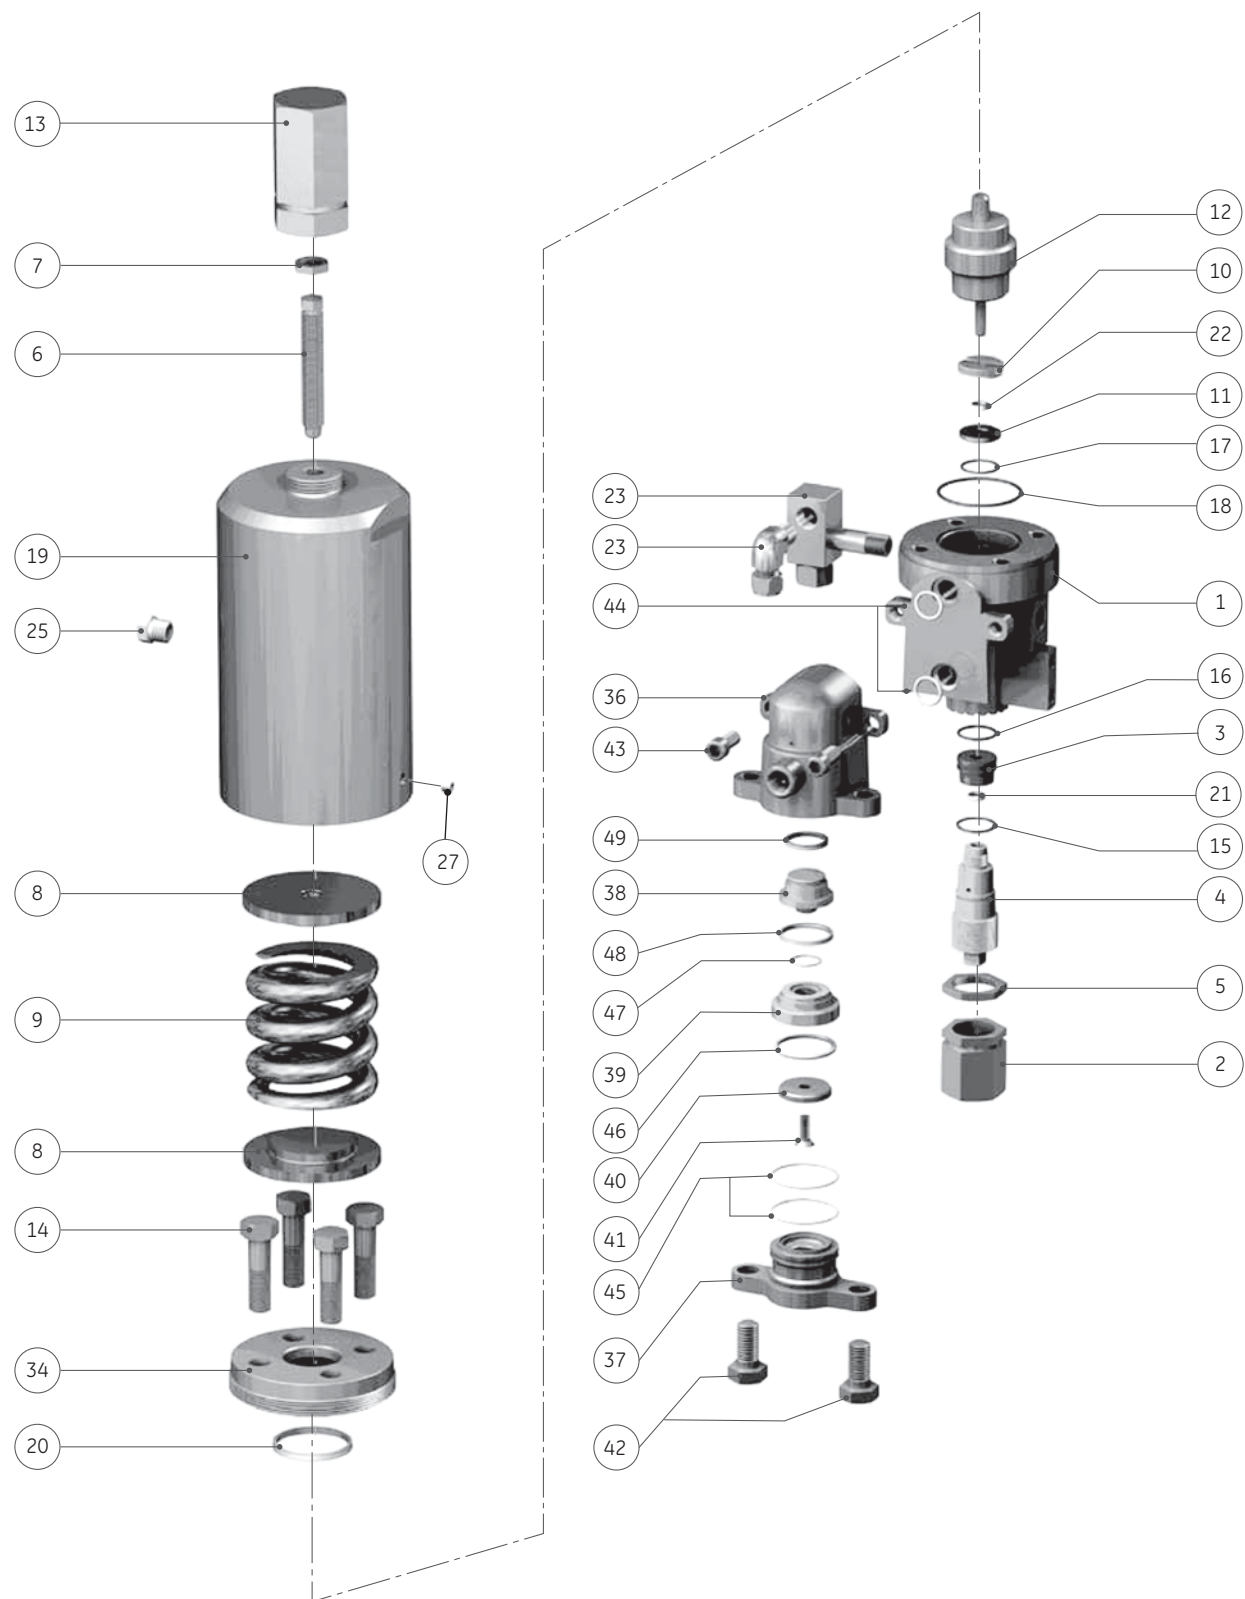

Figure 43: 39MV07 Disassembly
3. If a lifting lever is installed, also use Figure 42 to remove the Lifting Lever assembly. Then return to Figure 43 to continue disassembly.